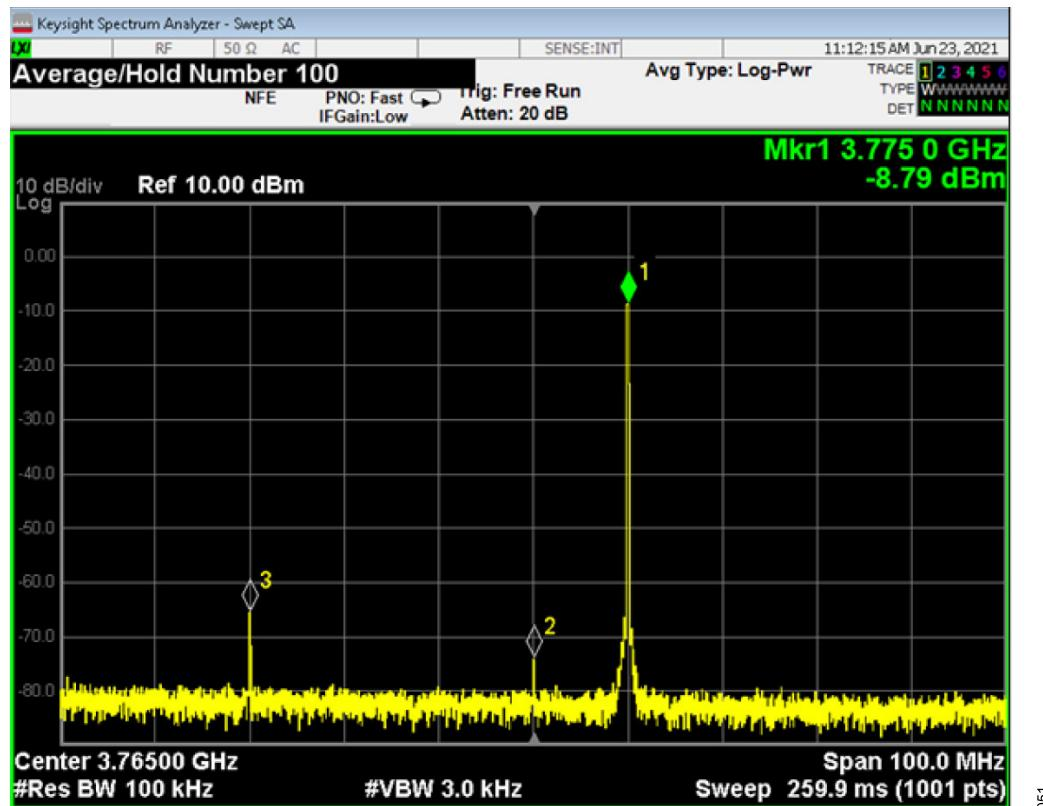

Figure 52. Tx0 Single Tone Spectrum as Captured by a Spectrum Analyzer
- ▶ For profiles with CDUC/CDDC enabled: user can map a specific vector to each carrier as shown in Figure 52.
13. Play transmitter data continuously over JESD as shown in Figure 51. This updates the waveform and fast Fourier transform (FFT) plots to preview the loaded vectors. The transmitter RF output can then be captured using a spectrum analyzer as shown in Figure 52.